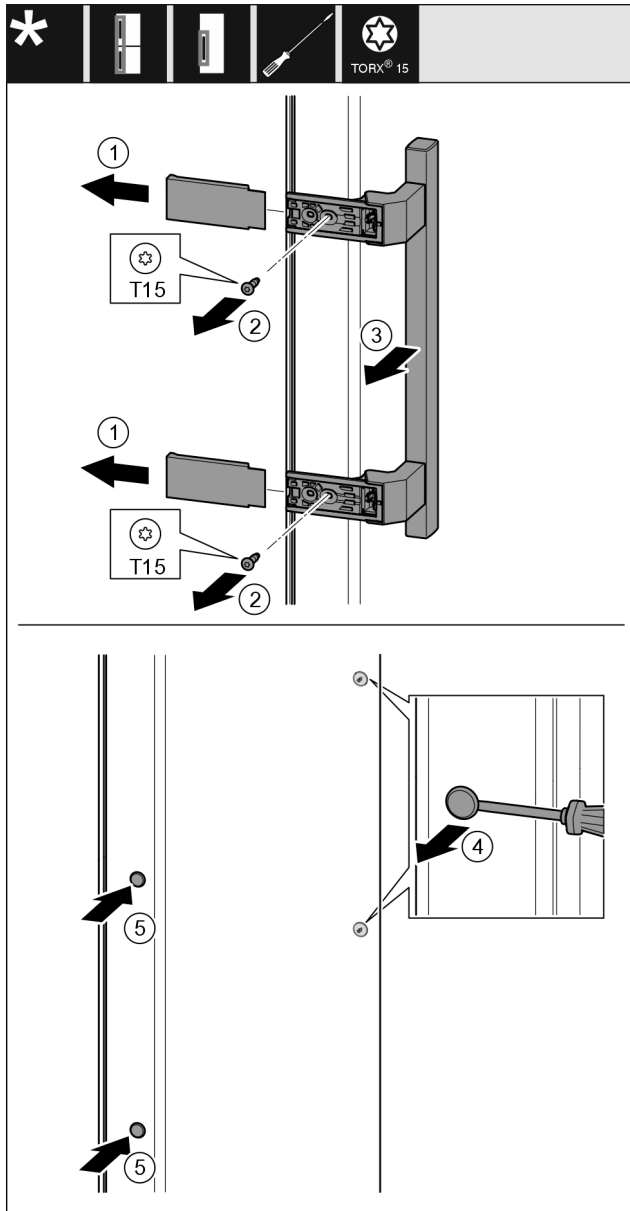

Fig. 42
- Remove the cover *Fig. 42 (1)*.
- Unscrew screws *Fig. 42 (2)* with screwdriver.
- Remove the handle *Fig. 42 (3)*.
- Use a slotted screwdriver to lift the side plug *Fig. 42 (4)* carefully and pull it out.
- Re-insert the plug *Fig. 42 (5)* on the other side.